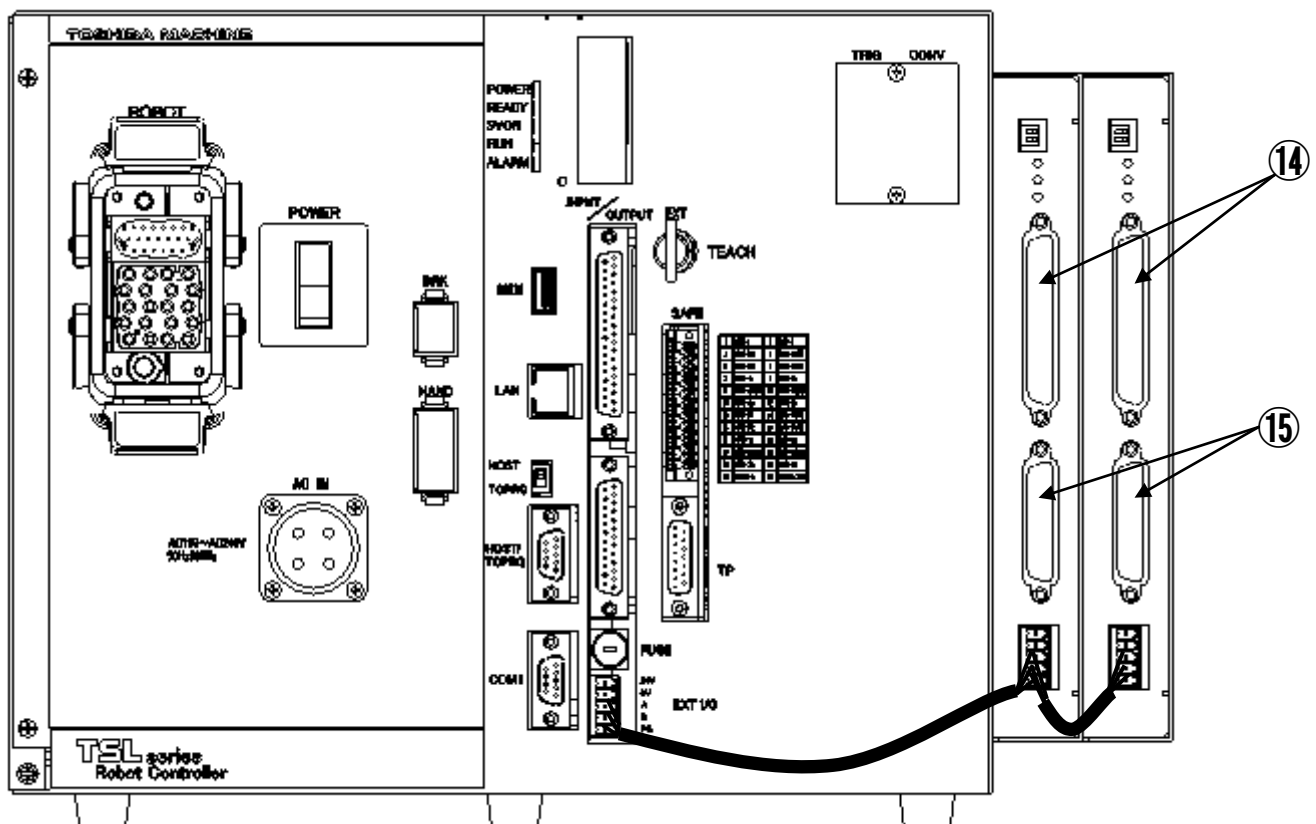

Fig. 7.3 TSL3000E/TSL3100E + TR48DIOC (2 units)
When two (2) TR48DIOC modules are used, see Fig. 7.3 for example. As the TR48DIOC module on the extreme right side as viewed from the controller front side is the terminal station in terms of cable wiring, set ON the terminator setting switch equipped on this module alone. The terminator of the left TR48DIOC module should remain OFF.